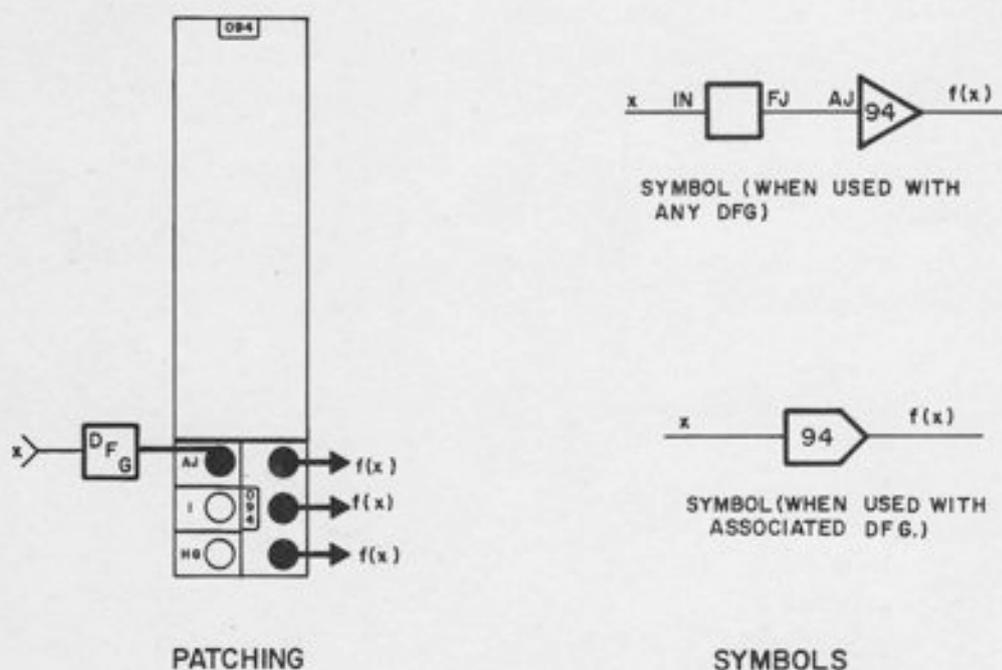

Figure 9.3. Use of the Junction Inverter as a DFG Output Amplifier
9.1.2.2 *Use as DFG Output (Figure 9.3).* The JI is arranged for convenient use as the output amplifier for a fixed DFG; it may be bottle-plugged to the associated FDFG or connected to any other FDFG by patchcord. Since the JI has its own feedback resistor, only one patching connection (the junction connection) is required to connect it to any FDFG designed for use with a 10K feedback; this includes the log/exponential DFG, the multiplier, and the x^2 DFG (which is one-half of a multiplier - see Chapter 11). Connection to a sine/cosine DFG requires removal of this 10K resistor, since the sine/cosine DFG uses a non-linear feedback network instead. For further information, see Paragraphs 9.2 and 9.3, and Appendix 1,
When the unit is used in the feedback path of a high-gain amplifier, the result is an exponential function. The input is through a 10K resistor (or other resistor value if "wide-range" exponentials are desired). This input may be attenuated with a pot, since its load is linear. When the DFG is used with an arbitrary amplifier, the DFG and the amplifier should be considered as separate components and drawn accordingly. When used with the associated amplifier, the two symbols may be "blended" into one, indicating that the DFG and amplifier are considered as a single component. (See Figure 9.3, and Appendix 4.)